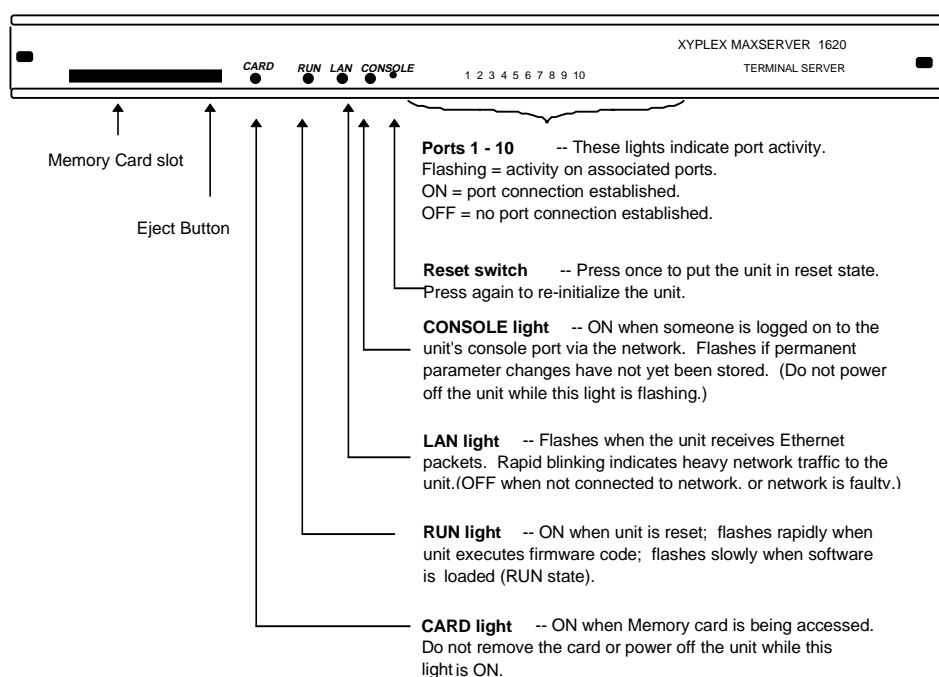

Figure 6 - MAXserver 1620/1640 Front Panel
3. When you apply power, the unit performs a self test of its circuitry and then proceeds to load its software. When the unit has finished loading its software, the RUN light flashes slowly and the LAN light flashes as Ethernet packets are received. (Figure 6 shows the locations of the lights on the front panel.)